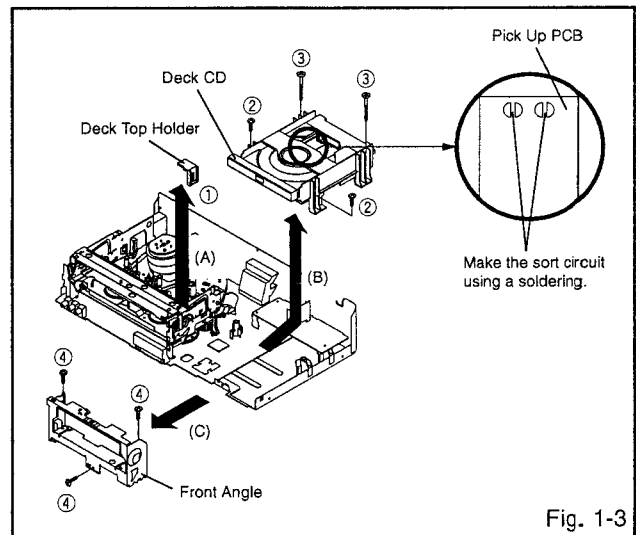

Fig. 1-3
### 1-3: DECK CD (Refer to Fig. 1-3)
1. Make the short circuit on the position as shown Fig. 1-3 using a soldering. If you remove the Deck CD with no soldering, the Laser may be damaged.
2. Unlock the support ① and remove the Deck Top Holder in the direction of arrow (A).
3. Remove the 2 screws ②.
4. Remove the 2 screws ③.
6. Remove the Deck CD in the direction of arrow (B).
7. Remove the 3 screws ④.
8. Remove the Front Angle in the direction of arrow (C).